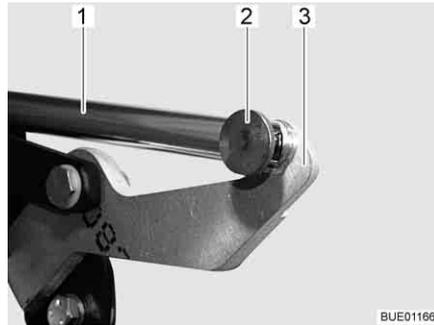

Fig. 132 Drive
- Remove the connection (e.g. splint and pin) (Fig. 132,2) between the push rod (Fig. 132,1) and lever (Fig. 132,3).